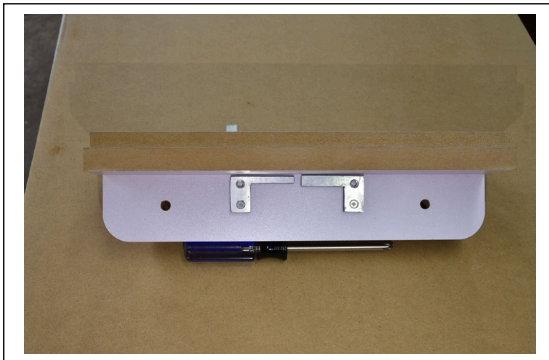

fig. 3
3. Secure the remaining two unused guide pins (C, D, or E) to the top of the mounting cleat (B) using the two remaining M4 machine screws (H) (see fig. 3).